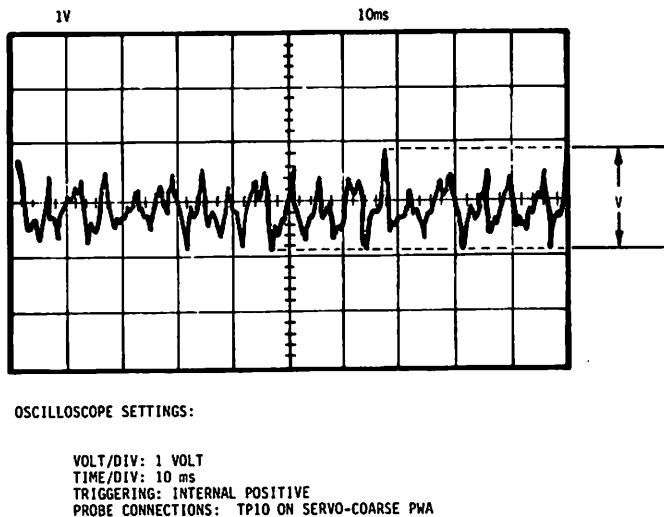

FIGURE 6-9.1. VOLTAGE INDICATING AMOUNT OF FIXED DISK MODULE RUNOUT
- Observe the waveform on the oscilloscope. Peak to peak voltage should be 2 Volts or less (see V in Figure 6-9.1).